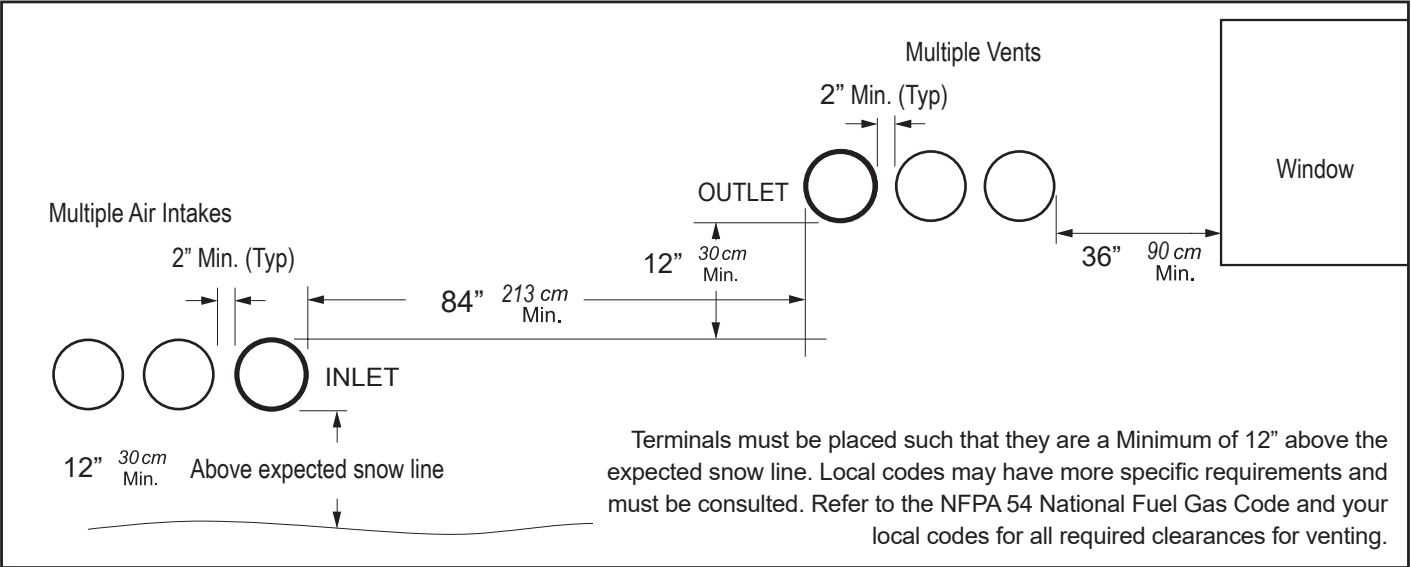

Figure 3. Minimum Venting Distance for Single and Multiple Units. Category III only
- If the unit is side-wall vented to the same wall as it's ducted combustin air, use Figure 3 on page 22 to determine the proper mounting locations.
- Multiple vent kits should be installed such that the horizontal distance between outlet group and inlet group is 84" (213 cm). (See Figure 3)
- The vent outlet must be at least 12" above the top of the air inlet, and must be at least 84" (213 cm) horizontally from the air inlet. (See Figure 3).